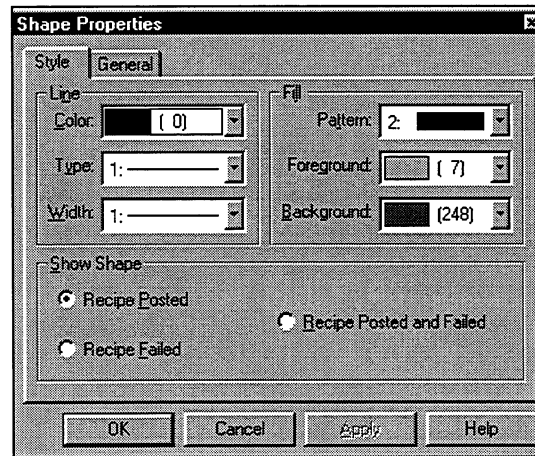

Figure 9-6. Recipe Shape Properties Dialog Box
5. Double-click on the shape to access the Shape Properties dialog box, as shown in Figure 9-6.